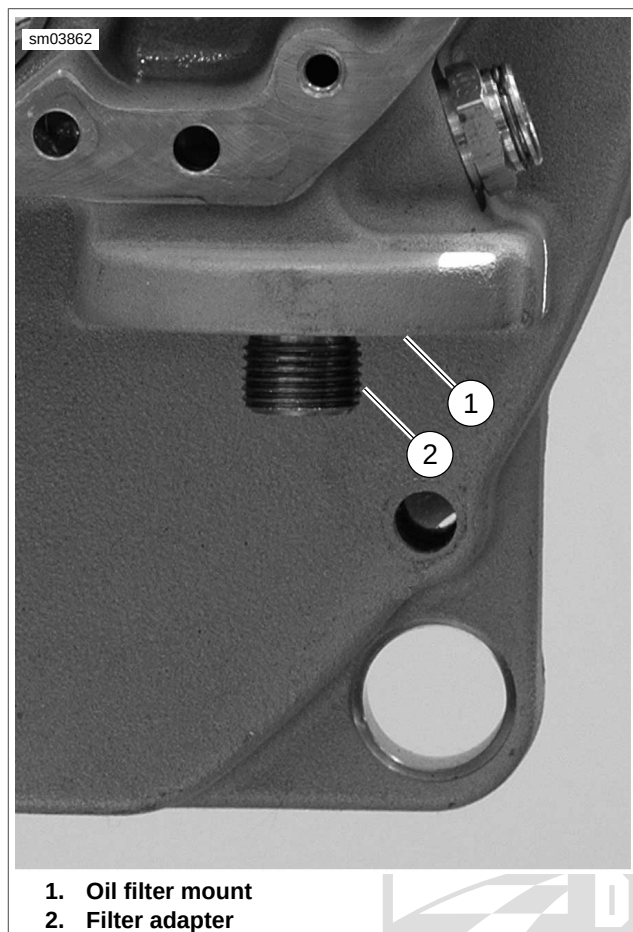

Figure 3-118. Oil Filter Mount with Adapter
1. See Figure 3-118. Remove the oil filter adapter from the oil filter mount.